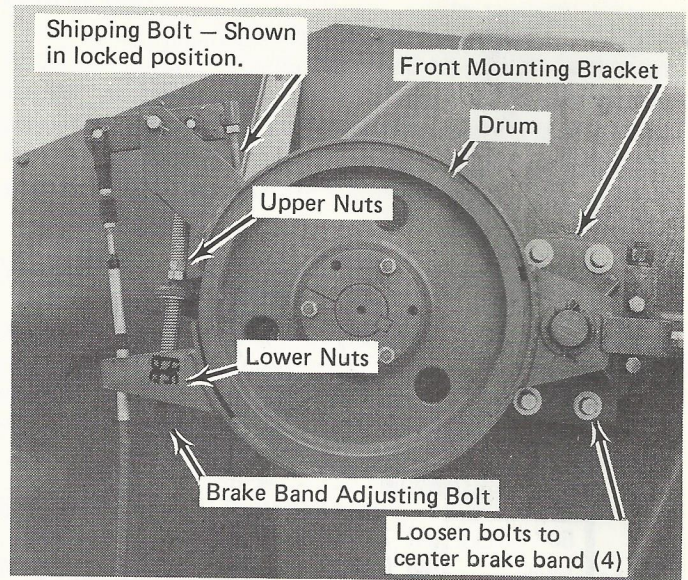

Figure 40. Brake Adjustment
The brake system uses a band type brake consisting of a drum mounted on the gear reducer's primary shaft, a brake band and a control lever with a ratchet type lock shown in figures 40 and 41. A shipping bolt is provided for locking the brakes during shipment. Whenever the pumping unit is transported by hauling, the brakes should be engaged and the shipping bolt tightened down against the bracket. Prior to operation of the pumping unit, the shipping bolt must be backed out completely to permit full operation of the brake shoes. Minor adjustments may be necessary to compensate for brake lining wear, cable stretch and worn linkage. Check out the system and make necessary adjustments by the following procedure:
2. Check that drum is centered between the front and rear ends of the brake lining as shown in figure 40. If the brake lining contacts the drum at either the front or rear, loosen the front mounting bracket attachment bolts and move the bracket to center the drum in the lining.
3. Check for excessive clearance between the drum and the clamping ends of the band as shown in figure 40. Adjust jam nuts upwards on adjusting bolt to reduce clearance between band and drum. Brake lining should not touch the drum. The upper nuts